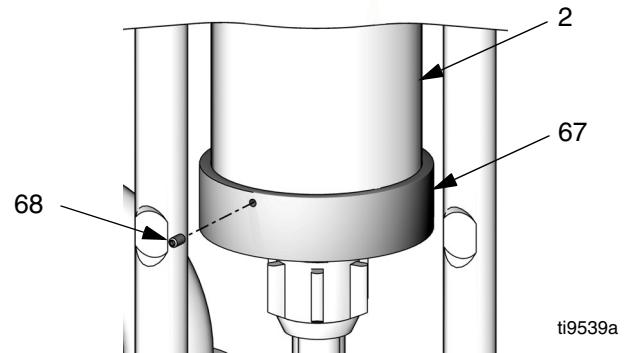

FIG. 8. Install Collector
4. Jog motor to move slider piston (9) to bottom of stroke, allowing reconnection of coupling nut (14).
5. Ensure that the collars (13) are in place in the coupling nut (14).
6. Place a 3/4 in. wrench on the flats of the slider piston (9), to keep it from turning when you are tightening the coupling nut (14). Orient the wrench so it is braced against one of the tie rods (3) or the stand. Tighten the coupling nut (14) onto the slider piston (9) and torque to 75-80 ft-lb (102-108 N•m).
7. See FIG. 8. Push the collector (67) up onto the bottom of the slider cylinder (2) so it seats securely. Install the three setscrews (68) finger-tight.